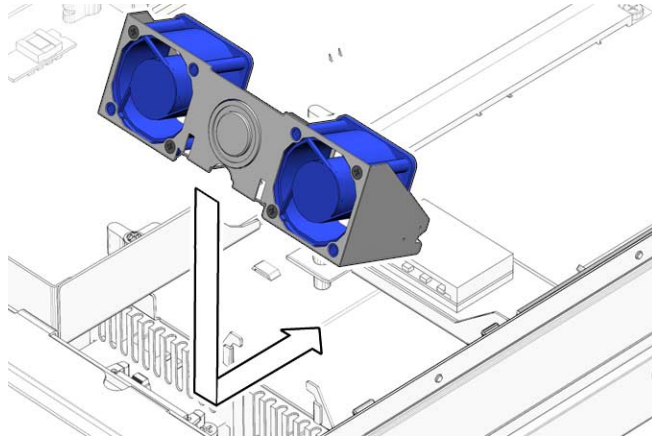

FIGURE 3-37 Lowering the Hard Drive Fan Assembly
2. Lower the hard drive fan assembly down, and slide the hard drive fan bracket back so that the tabs enter the slots (FIGURE 3-37).